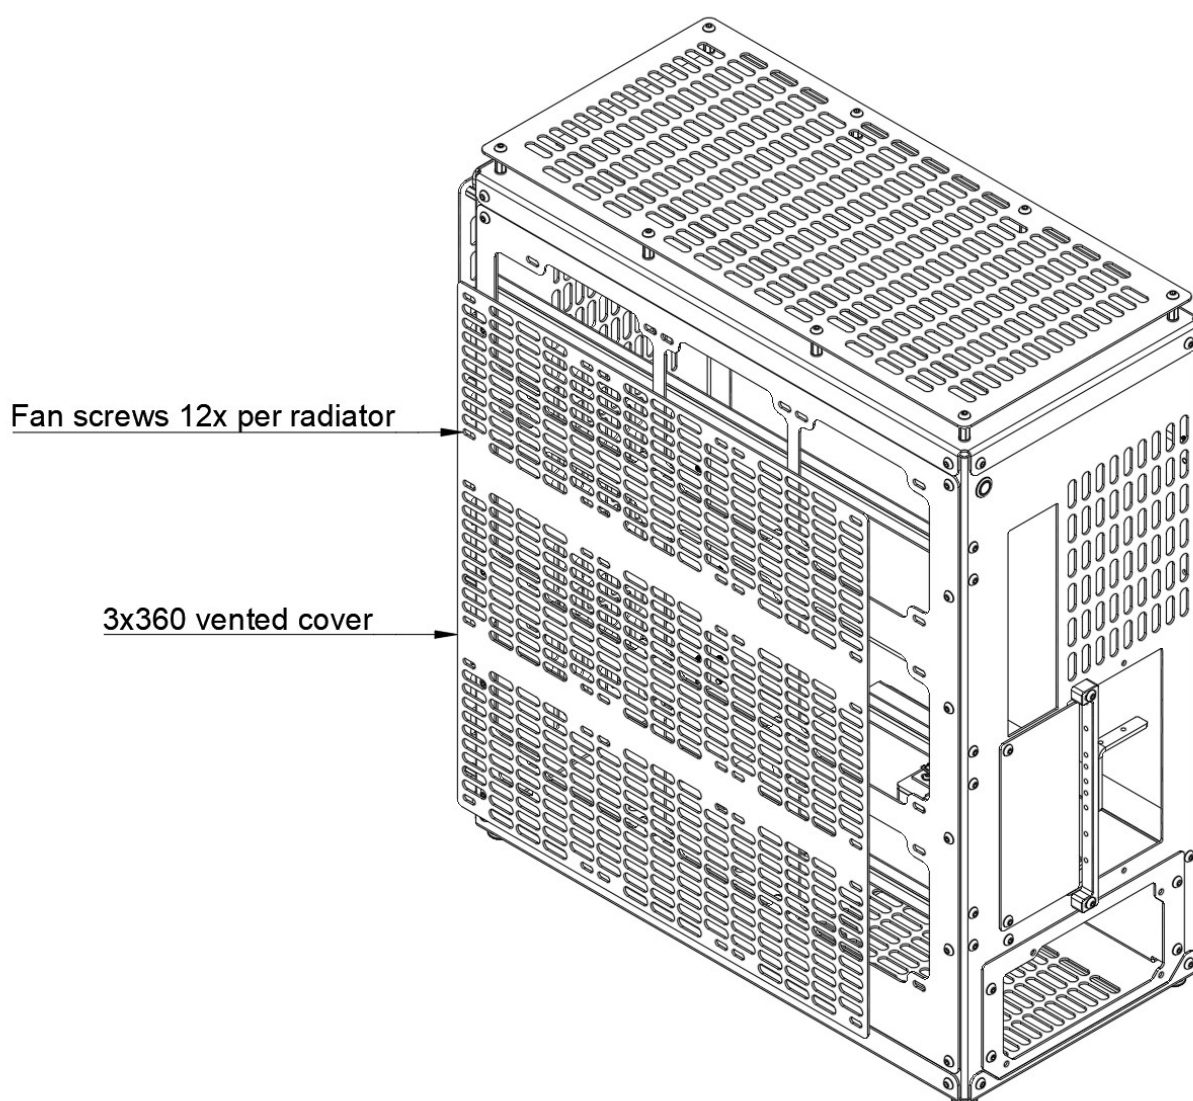

Figure 10B
- **Step 26:** Then install the 3x360 vented cover to the fans or radiators using fan or radiator mounting hardware that come with them according to *Figure 10B*.